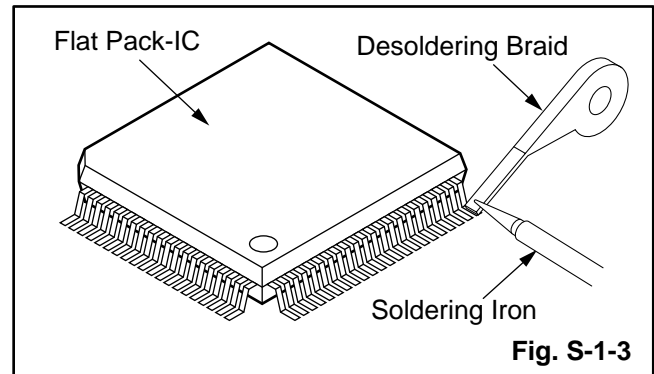

Fig. S-1-3
- (1) Using desoldering braid, remove the solder from all pins of the flat pack-IC. When you use solder flux which is applied to all pins of the flat pack-IC, you can remove it easily. (Fig. S-1-3)